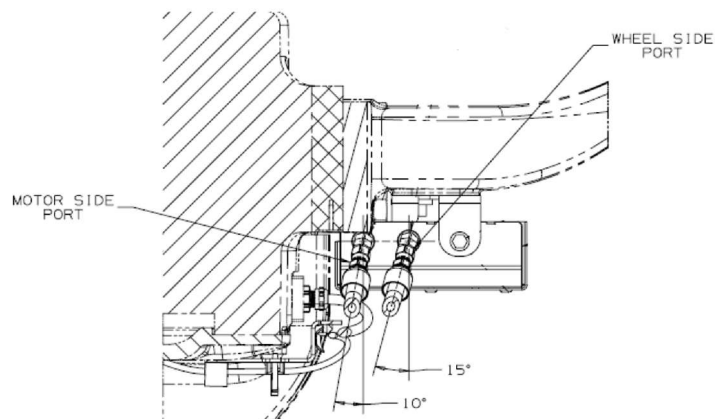

Figure 4B: Orientation of 45 Deg Elbows.
- b) Install two 45 deg elbows NF P/N 5944641 in the fittings on the top of the breather assembly. Orient the 45 deg elbows as seen in Figure 4B.